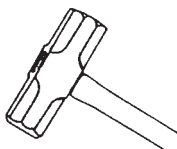

Figure 21.5
**Double-face** — head weights from 4 to 20 pounds and handle lengths from 15 to 36 inches. The 8-pound sledge is heavy enough for most boilermakers' work, although heavier sledges may be required for fairing tank seams or for driving wedges on heavy plate work. The 4-pound maul or sledge is a favourite with fitters and is often carried on their belts. With a shorter handle (10 to 12 inches) permitting heavy blows with a limited swing, its weight makes it ideal for driving in full pins for lining up shelf plates (Figure 21.5).